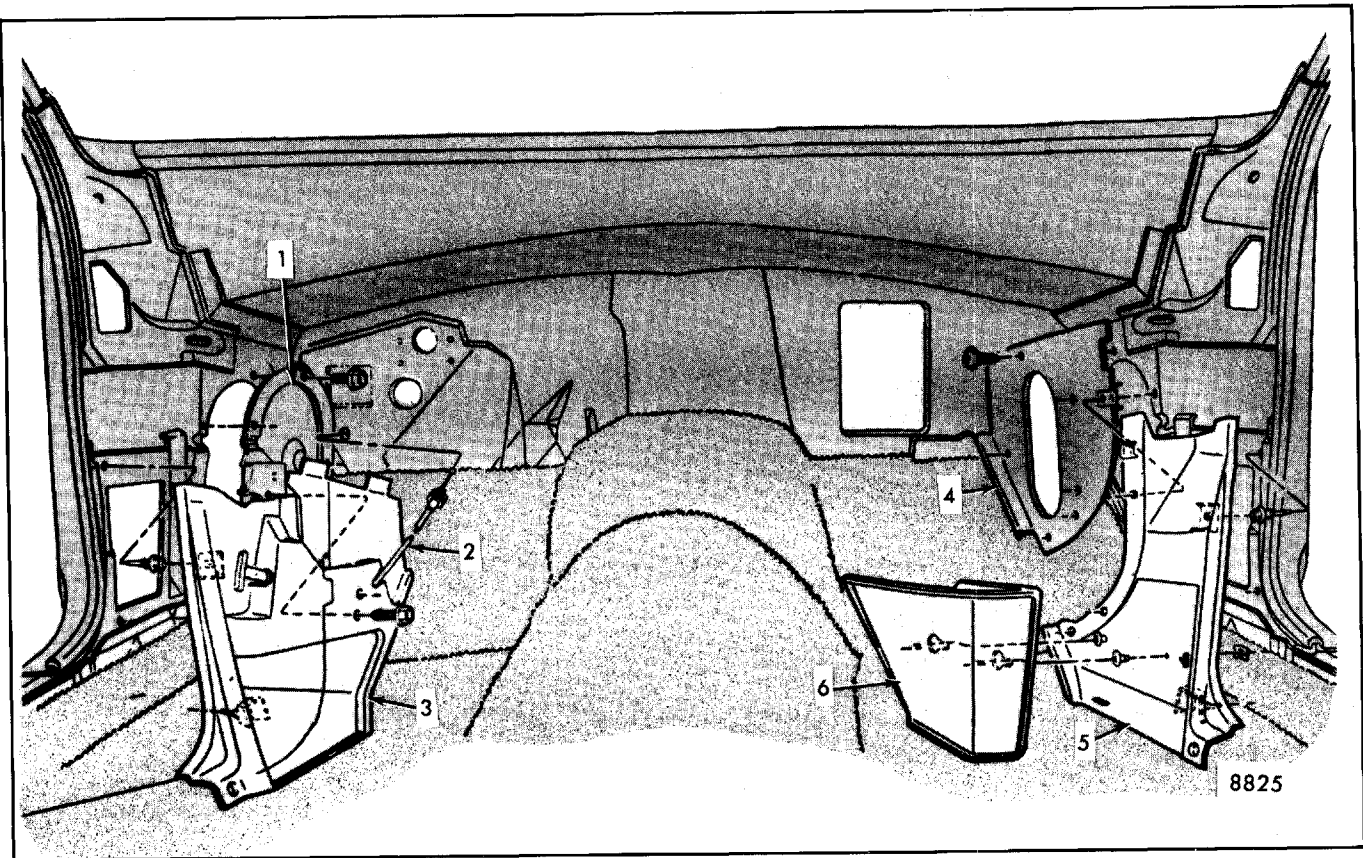

Fig. 4-13 - Front End Component Identification (Typical)
Figure 4-13 identifies interior front end components as installed on K styles.
The left side shroud panel consists of a trim panel and hood release cable assembly (items 2 and 3, Fig. 4-13). The cable must be removed as an assembly during shroud side trim panel removal.
The right side shroud panel consists of a side duct panel and door assembly (see 4 in Fig. 4-13), a rear shroud side trim panel (see 5 in Fig. 4-13) and a litter container (see 6 in Fig. 4-13).